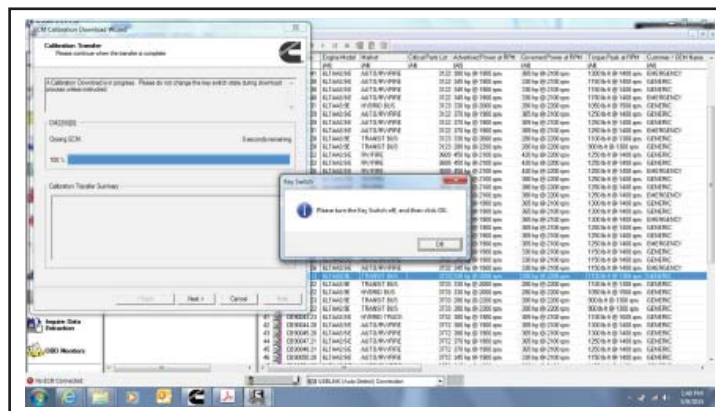

Figure 23 - Calibration Transfert Complete
- 1.23. After ECM calibration transfer is complete, a window will pop up indicating you to turn the key switch off then click ok. See Figure 23.